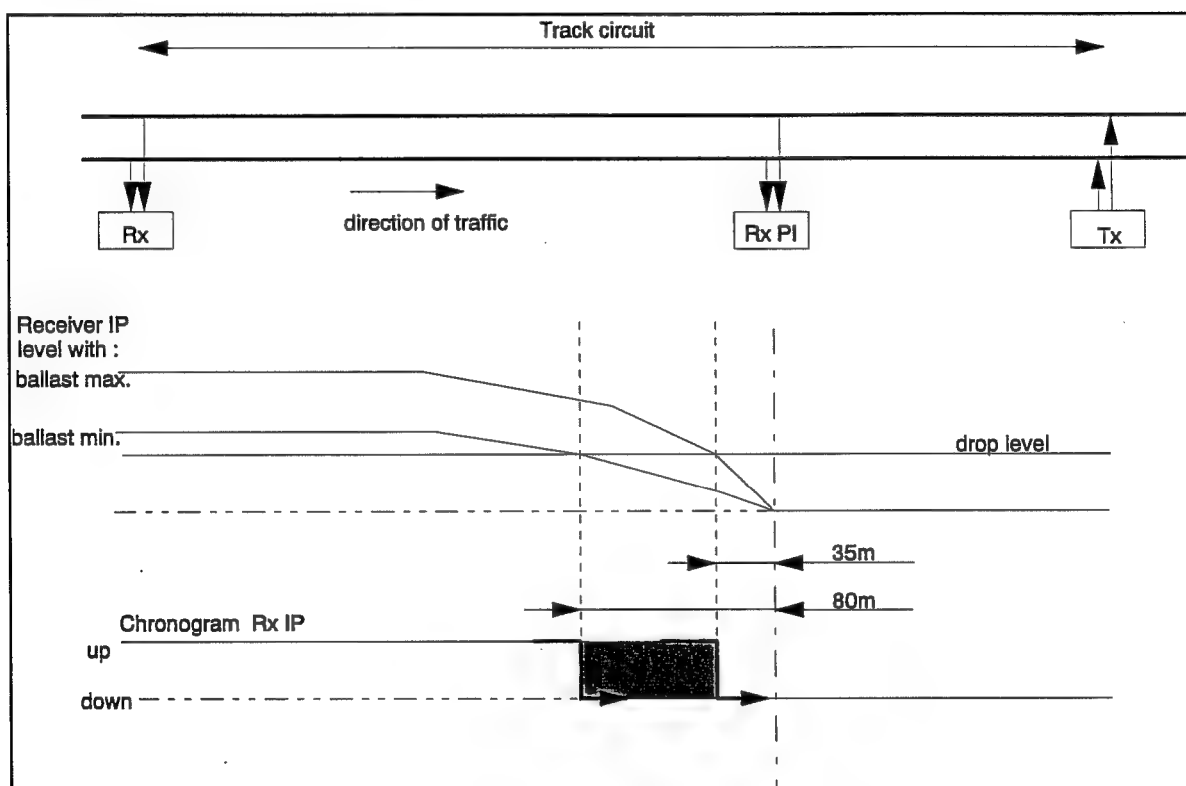

Figure 21 - incertain status area
4.8.1.3 Incertain status area (Fig . 21)